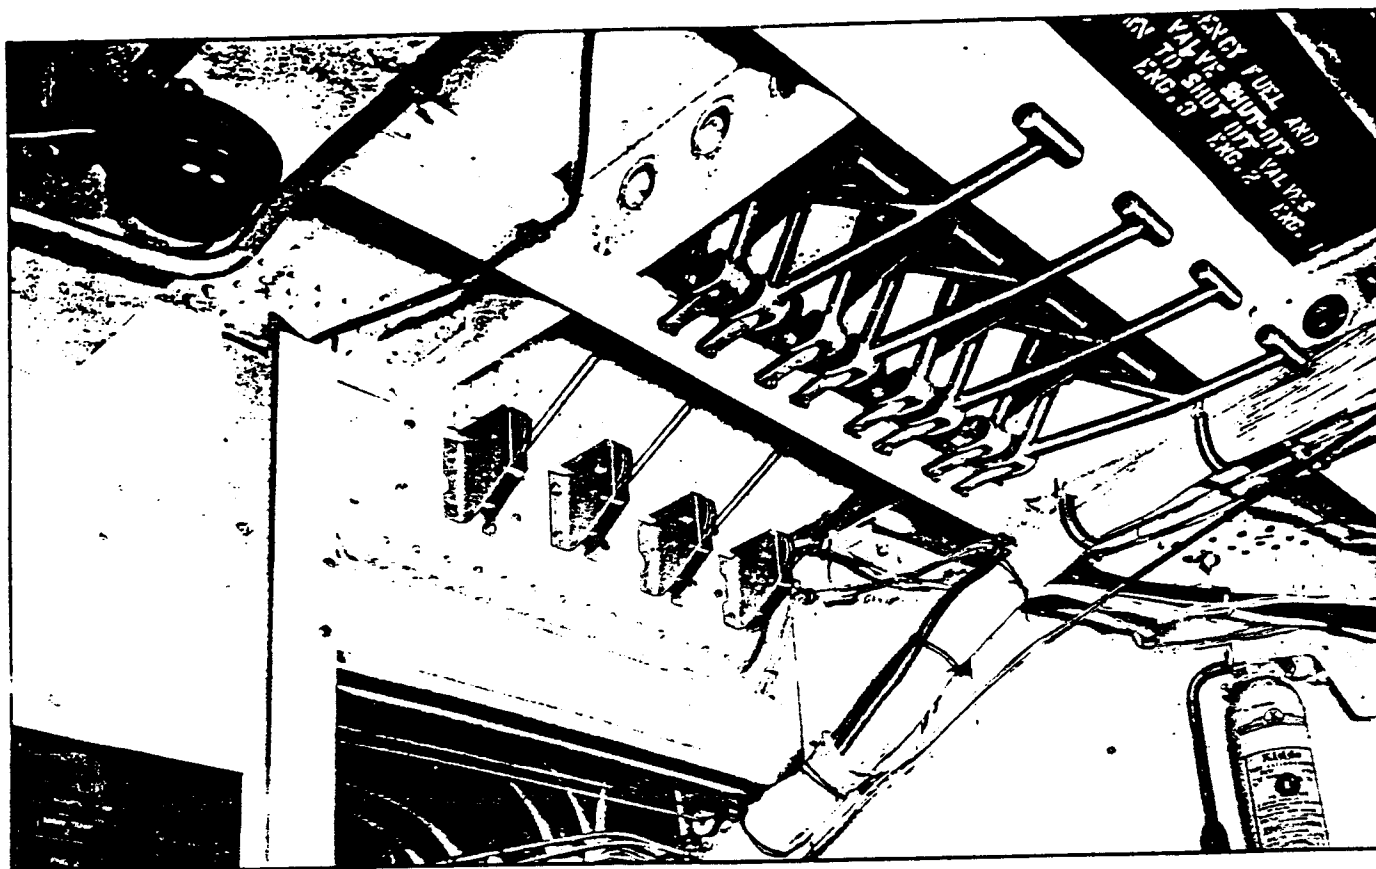

Figure 9. Emergency Fuel and Oil Shut-Off Controls
(1) The airplane has four sets of self-sealing fuel tanks. Each set of fuel tanks, consisting of two individual fuel cells is filled through one filler neck. The inboard forward sets of fuel tanks must be filled first, to avoid danger of upsetting the airplane. For servicing, small covers provide access to each fuel tank filler neck. Lift the handle and rotate the access cover counter-clockwise until it comes free. The fuel filler neck caps are retained by chains.
(2) Manual "EMERGENCY FUEL AND OIL SHUT-OFF VALVES" levers are located at the top of the cabin between the radio operator's and engineer's stations. See figure 9.
(3) Use Specification No. AN-F-28, Grade 100/130 aircraft engine fuel only.
(1) Oil is carried in four 85 U.S. gallon oil tanks located in the leading edge of the wing, one just inboard of each engine. These oil tanks, on each side of the airplane, are connected together by an oil transfer line, in which a transfer pump is installed, making it possible to transfer oil from one tank to the other on the same side of the airplane. Emergency oil shut-off valves are incorporated in each oil system, between the oil tank and the engine. The emergency oil shut-off valves are manually operated by levers located in the forward cabin above the entrance doorway. These levers are labeled "EMERGENCY FUEL AND OIL SHUT-OFF VALVES." See figure 9. Closing the emergency oil shut-off valves does not prevent oil reaching the turbosuperchargers. Oil level transmitters are installed in each oil tank. The oil tank filler neck is closed by a screw cap, which is located under a circular cover held down by four screw-type fasteners.
(2) Use Specification No. AN-VV-O-446a, oil only.
(3) For location of oil drains, oil filters, and location of oil access filler caps for servicing the oil system, see Section IV, paragraph 12.